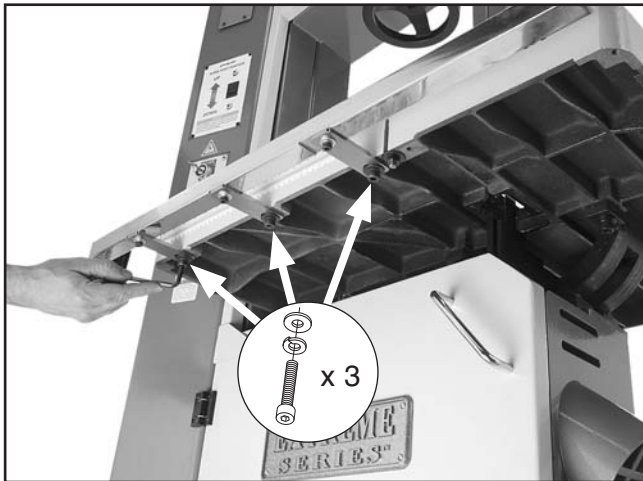

Figure 18. Fence rail in the correct position.
1. Remove the three cap screws, lock washers, and flat washers shown in **Figure 18**.